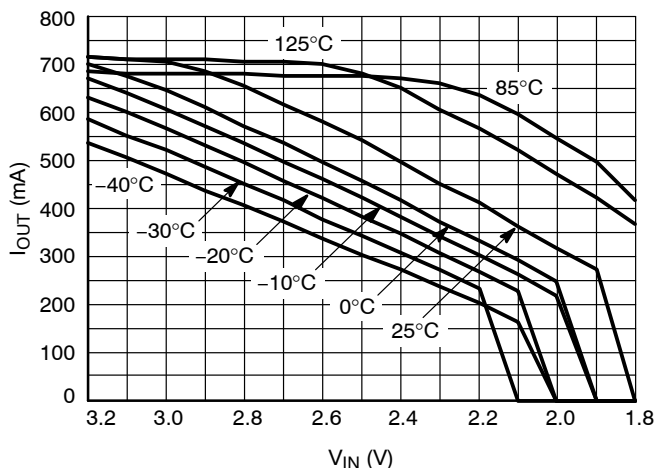

Figure 22. Output Current Capability for the 1.5 V Version
22. For output current capability for $T_A < 0^{\circ}\text{C}$, please refer to Figure 22.